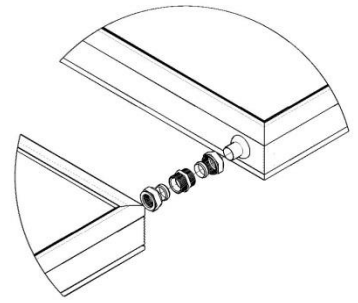

Figure 6-4 Collector Connectors
15. Place the second collector onto the collector mounting rail. Figure 6.4.